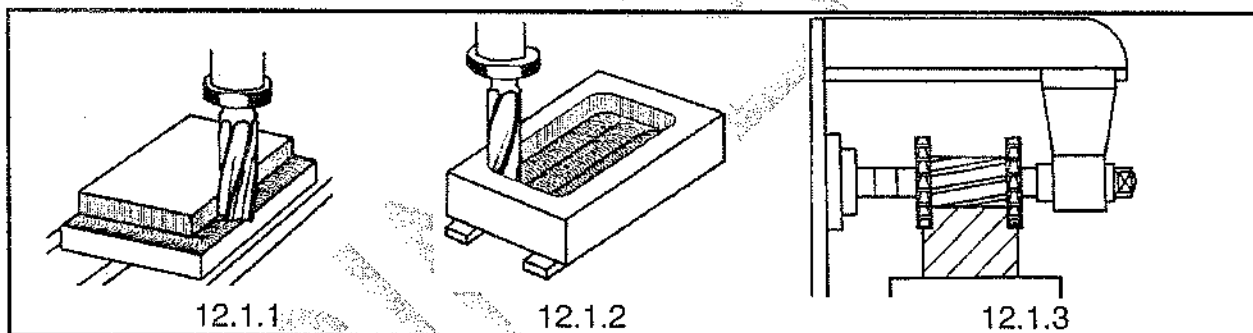

FIGURE 7
12.1 Identify the milling processes in FIGURE 7. Write the answer next to the question number (12.1.1–12.1.3) in the ANSWER BOOK.